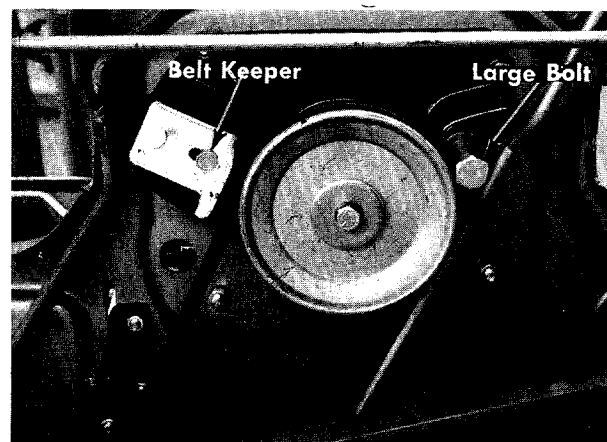

FIGURE 28. BELT KEEPER
- Step 2. Remove the belt keeper and large bolt on the engine pulley. See figure 28.
Step 2. Remove the belt keeper and large bolt on engine pulley. See figure 28.